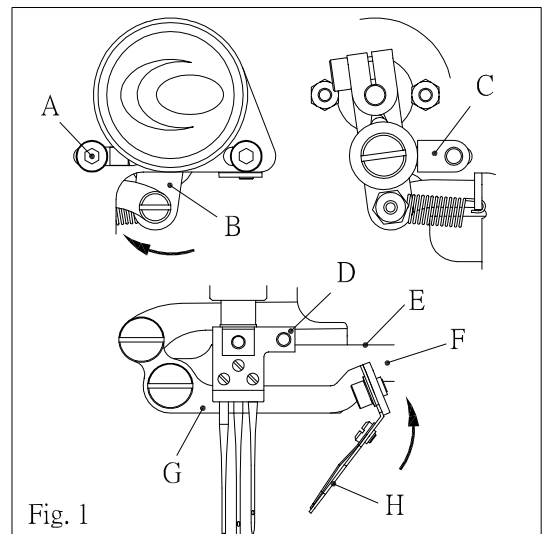
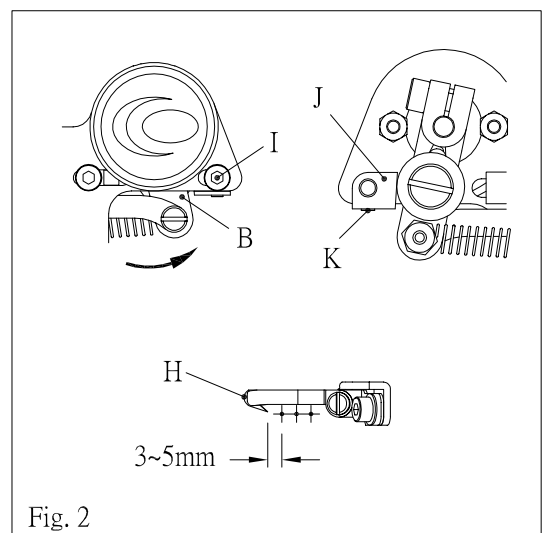
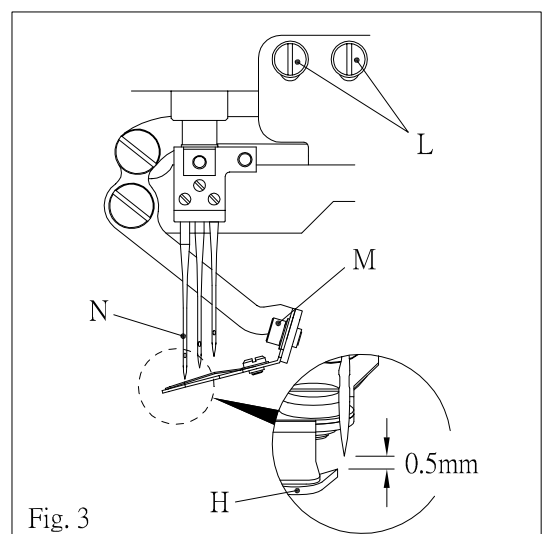

Fig. 1
Fig. 2
Fig. 3
- (2) 調整抓線鉤(H)上死點位置，首先放鬆螺絲(A)，以手擺動驅動臂(B)，使連桿(G)與支架(F)成水平，或依實際需求調整，過程中限動塊(C)須配合定位，最後鎖緊螺絲(A)，調整後連桿(G)與支架邊緣(E)需留有間隙，針留(D)與抓線鉤(H)之間亦是，以避免產生碰撞。(圖1)
Adjusting hook blade (H) to its uppest position, by loosening screw (A), set arm (G) parallel with solenoid support (F) by adjusting driving lever (B) and stop block (C), then, tighten screw (A), after such adjustments, please make sure there should have a tolerance between arm (G) and the edge (E) of solenoid support (F), also there should have a tolerance between needle clamp (D) and hook blade (H) in order to avoid any collision among the parts. (Please refer to figure 1.)
- (3) 調整抓線鉤(H)下死點位置，放鬆螺絲(K)、(I)，擺動驅動臂(B)使抓線鉤(H)與左針中心，左右需有3~5mm的間距，而限動塊(J)須配合定位，接著先後鎖緊螺絲(I)、(K)即可。(圖2)
Adjusting hook blade (H) lowest position, by loosening screw (K) and (I), setting hook blade (H) passed over 3~5mm from the center of leftest needle, by moving driving lever (B) and stop block (J), then, tighten screw (I) and (K). (Please refer to figure 2.)
- (4) 當抓線鉤(H)至下死點，鉤尖行經左針(N)中心時，兩者上下間距，需有0.5mm，而間距可由螺絲(L)做調整，此外亦可以螺絲(M)作微調，完成後需再檢視第三和第五步驟。(圖3)
There should have 0.5mm tolerance when hook blade (H) passing thru the center of leftest needle (N) to its lowest position, this tolerance can be obtained by adjusting screw (L) and also can be micro-adjusted by screw (M) and after finished the adjustments, need to double check step (3) and step (5). (Please refer to figure 3.)